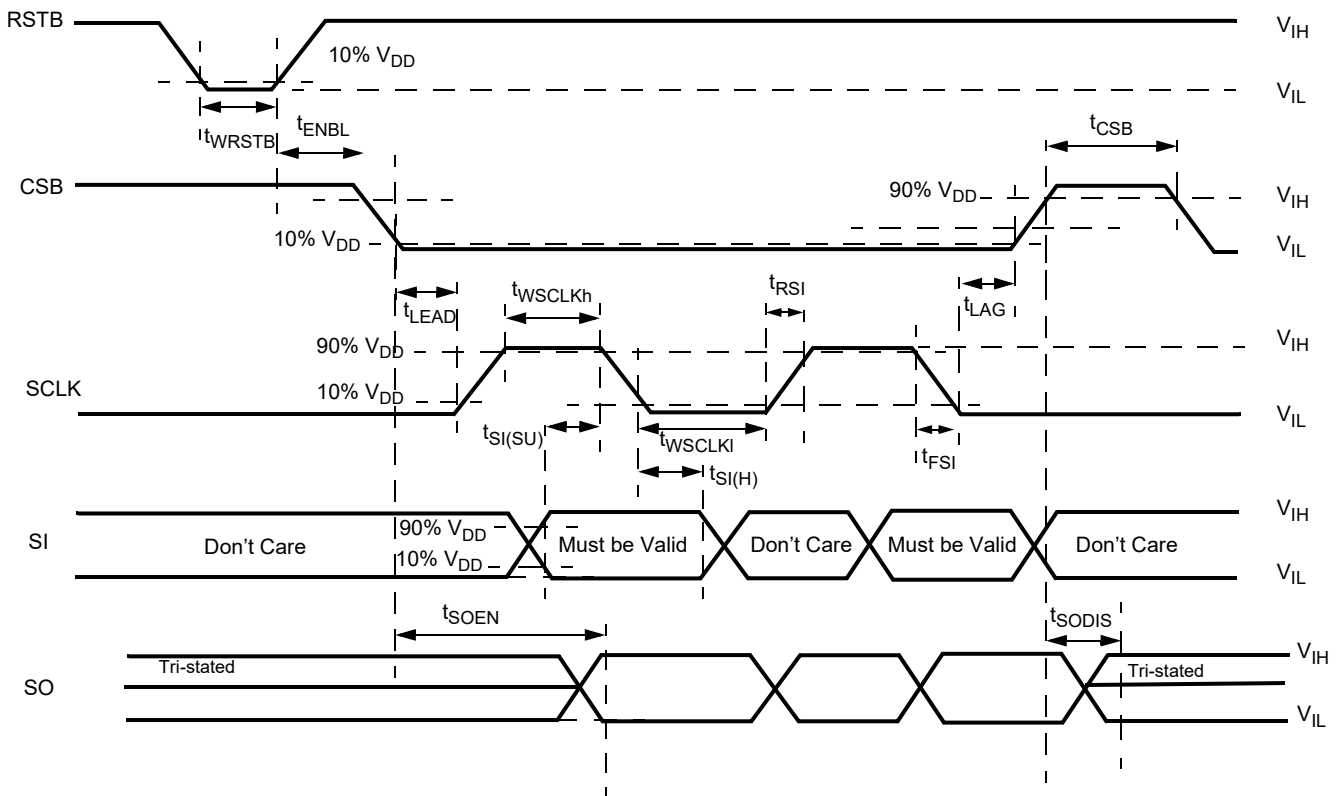
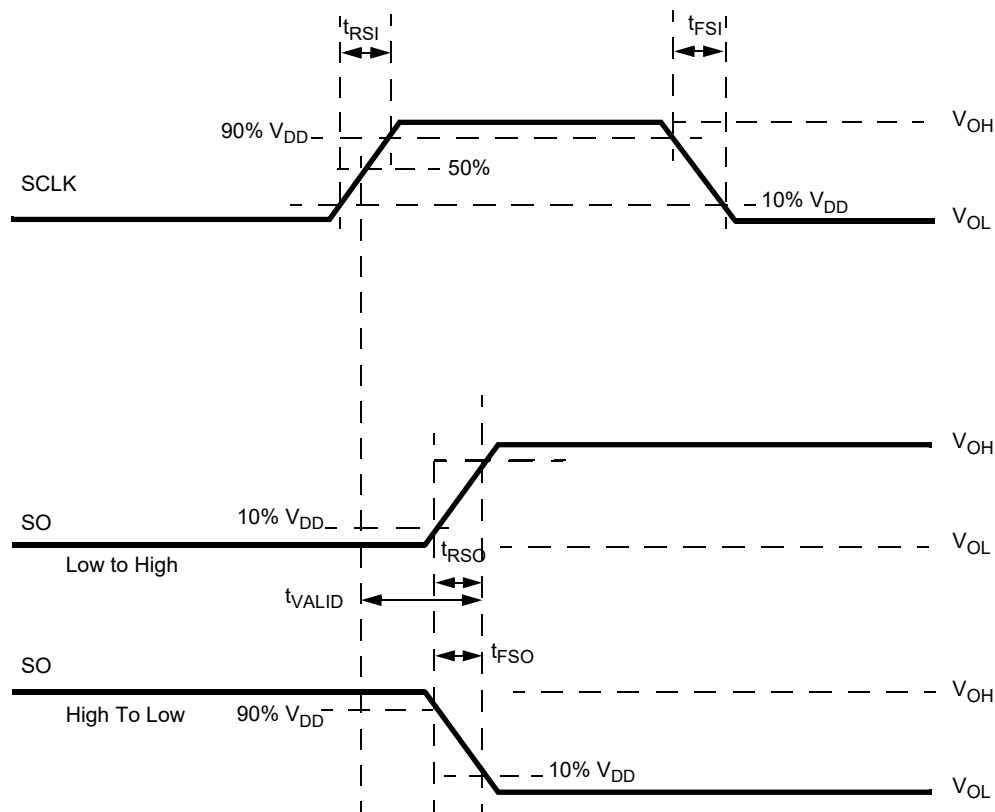

Figure 7. Timing requirements during SPI communication
Figure 8. Timing diagram for serial output (SO) data communication
Data communication over the SPI port is enabled when the CSB pin is in the logic [0] state. Data from the Input Shift registers are locked in the addressed SI registers on the rising edge of CSB. The device transfers the contents of one of the eight internal registers to the SO register on the falling edge of CSB. The SO output driver is enabled when CSB is logic [0]. CSB should transition from a logic [1] to a logic [0] state only when SCLK is at logic [0] (Figure 7 and Figure 8). CSB is internally pulled up to  $V_{DD}$  through  $I_{UP}$ .
Serial input (SI) data bits are shifted in at this pin. SI data is read on the falling edge of SCLK. 16-bit data packages are required on the SI pin (see Figure 7), starting with bit D15 (MSB) and ending with D0 (LSB). All the internal device registers are addressed and controlled by a 4-bit address (D9-D12) described in Table 14. Register addresses and function attribution are described in Table 15. The SI pin is internally connected to a pull-down current source,  $I_{DWN}$ .